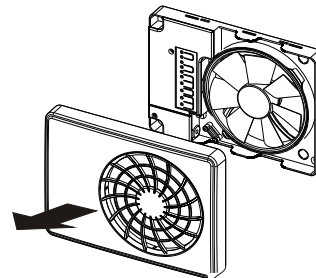

Fig. 4
4. Remove the front cover by releasing the snap fasteners at the bottom or top. Fig. 4